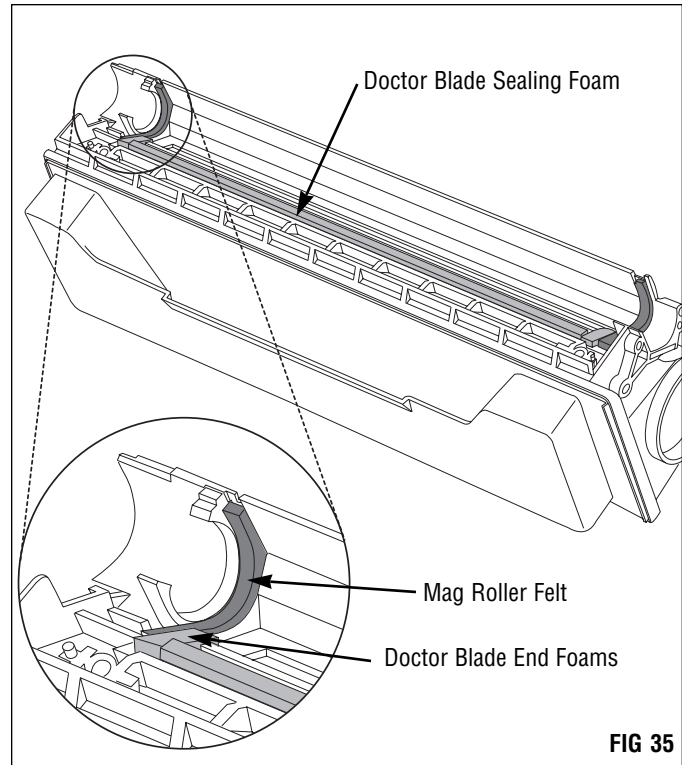

FIG 35
Direct compressed air on and around foam and felt components to remove as much toner and debris as possible (FIG 34). Refer to FIG 35 on the following page for the location of the foam and felt materials.
10. Inspect the sealing components in the hopper section and replace as required (FIG 35).